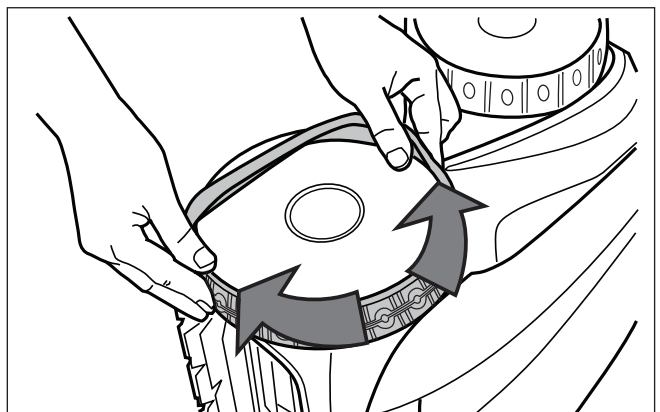

Figure 32. Work the Tire On Around the Wheel
6. Work the tire onto the wheel and verify the rib of the tire is positioned properly within the groove of the wheel (Figure 32).